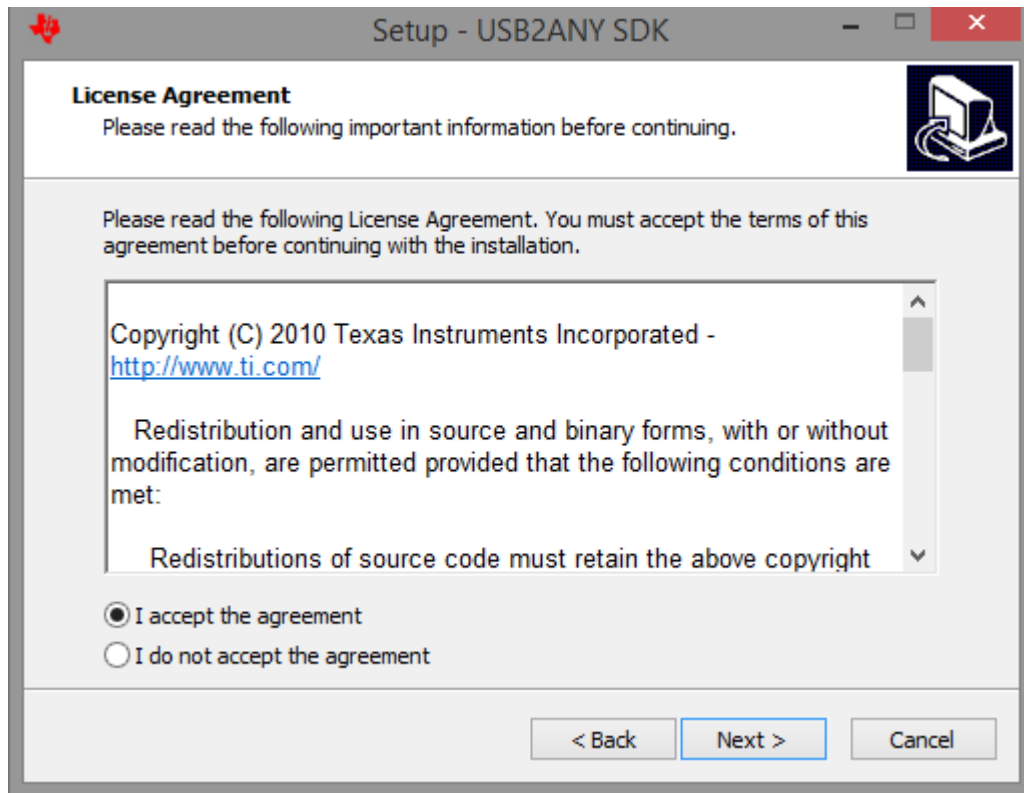

Figure 1-15. USB2ANY License Agreement
- The License Agreement appears as shown in Figure 1-15. Read through the agreement carefully and enable the “I accept the agreement” option and click the Next» button.